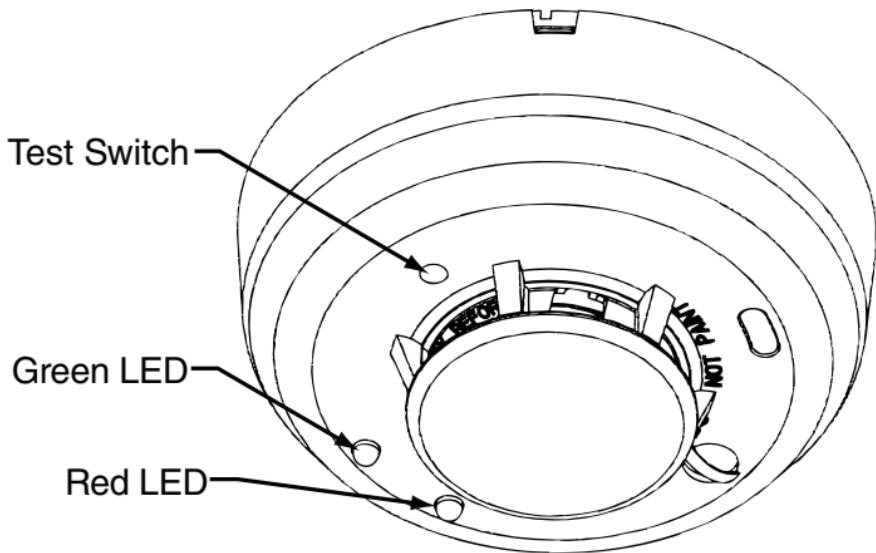

Figure 4: Silent Call Model #SD4-MC Wireless Smoke Detector
- In dead air spaces at the top of a peaked roof or in the corners between ceilings and walls. Dead air may prevent smoke from reaching the detector. See figures 4 and 5 for recommended mounting location.